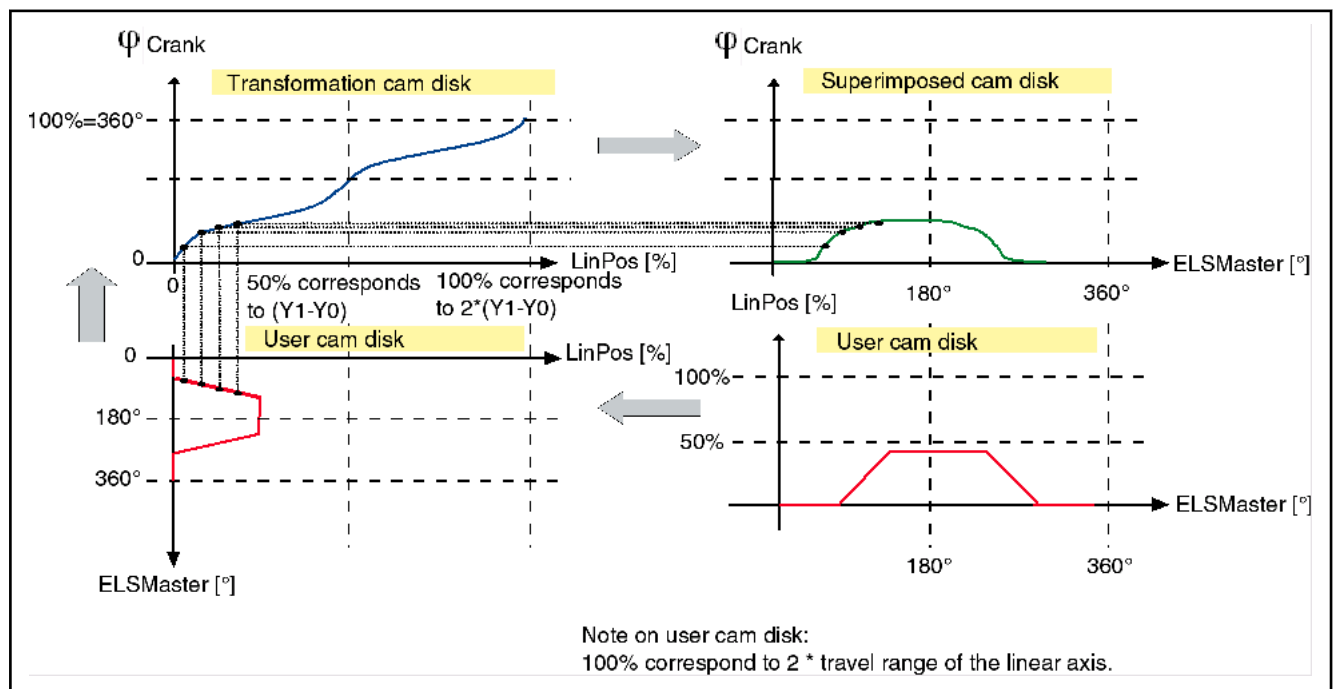

Fig. 6-9: Principle of the cam superimposition
The principle of superimposition is shown in fig. 6-9 "Principle of the cam superimposition" on page 401. The user cam has to contain 1,024 data points and defines the motion of the translatory axis related to the master axis (without taking the bell-crank kinematics into account). Thus, the table value 100% corresponds to movement $2 \cdot \text{travel range} = \text{modulo value of the virtual translatory axis}$.
- If the end point of the user cam is 0%, the translatable axis moves forwards and backwards with reversal of direction of crank 1 (as shown in fig. 6-9 "Principle of the cam superimposition" on page 401)